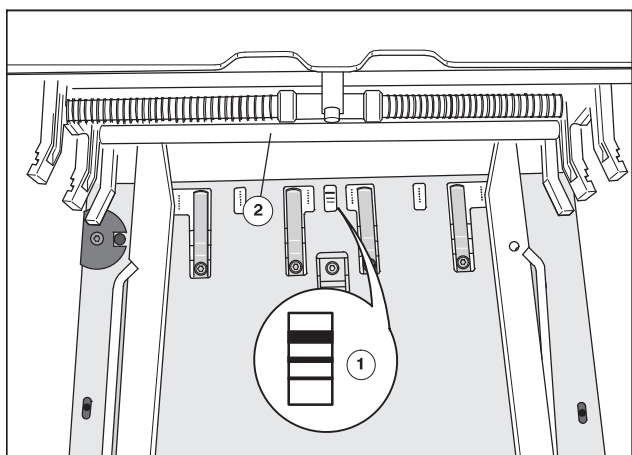
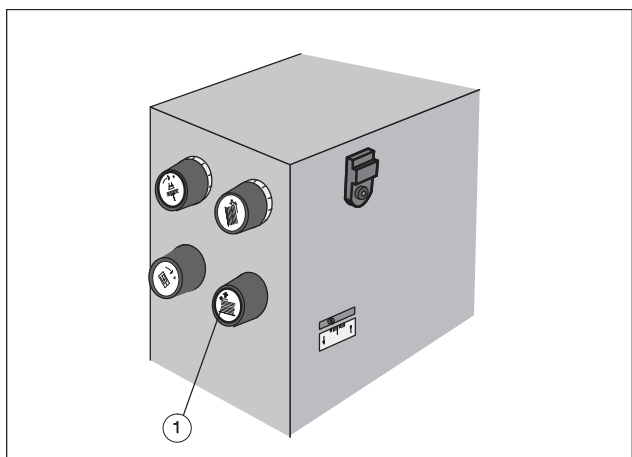

Fig. 8 Aligning the upper edge of pile
Fig. 9 Control knob for the pile height
Using the control knob (Fig. 9/1) to align the upper edge of the pile on the scale (Fig. 8/1) according to the thickness of printing material.
2. Turn the control knob for the pile height (Fig. 9/1) anti-clockwise and set it to the lowest working height.
4. If the feed table height control bar (Fig. 8/2) touches the top sheet and stops the automatic feed pile mechanism, turn the control knob (Fig. 9/1) clockwise until the correct pile height is reached.